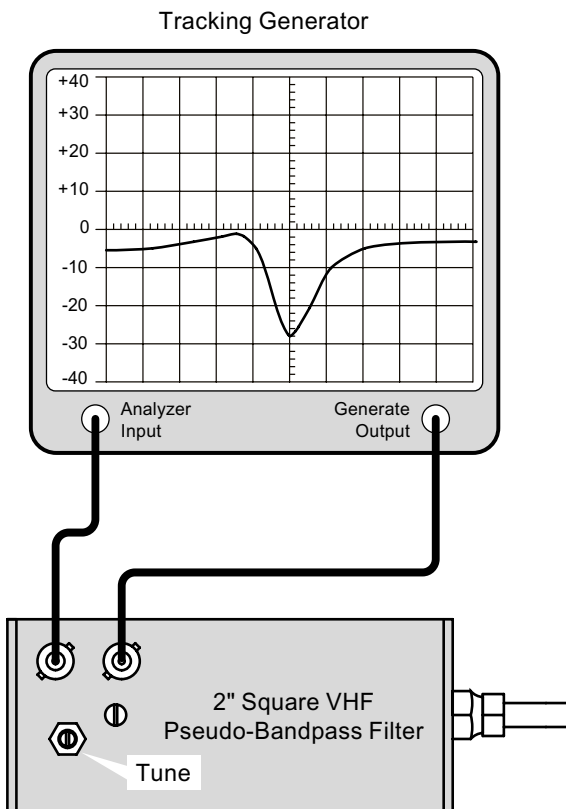

Figure 16: Tuning the Pseudo-bandpass filter for maximum attenuation.
- 5) Set the tracking generator for the center frequency of the filter and connect the test leads as shown in **Figure 16** but first temporarily connect the leads together through a female barrel connector and set a zero dB loss reference. On the IFR A-7550 proceed as follows:
- 6) Connect the leads to the cavity as shown in figure 16 and use a tuning tool or small screw driver to engage the notch tuning capacitor and rotate it to obtain maximum attenuation at the notch frequency.